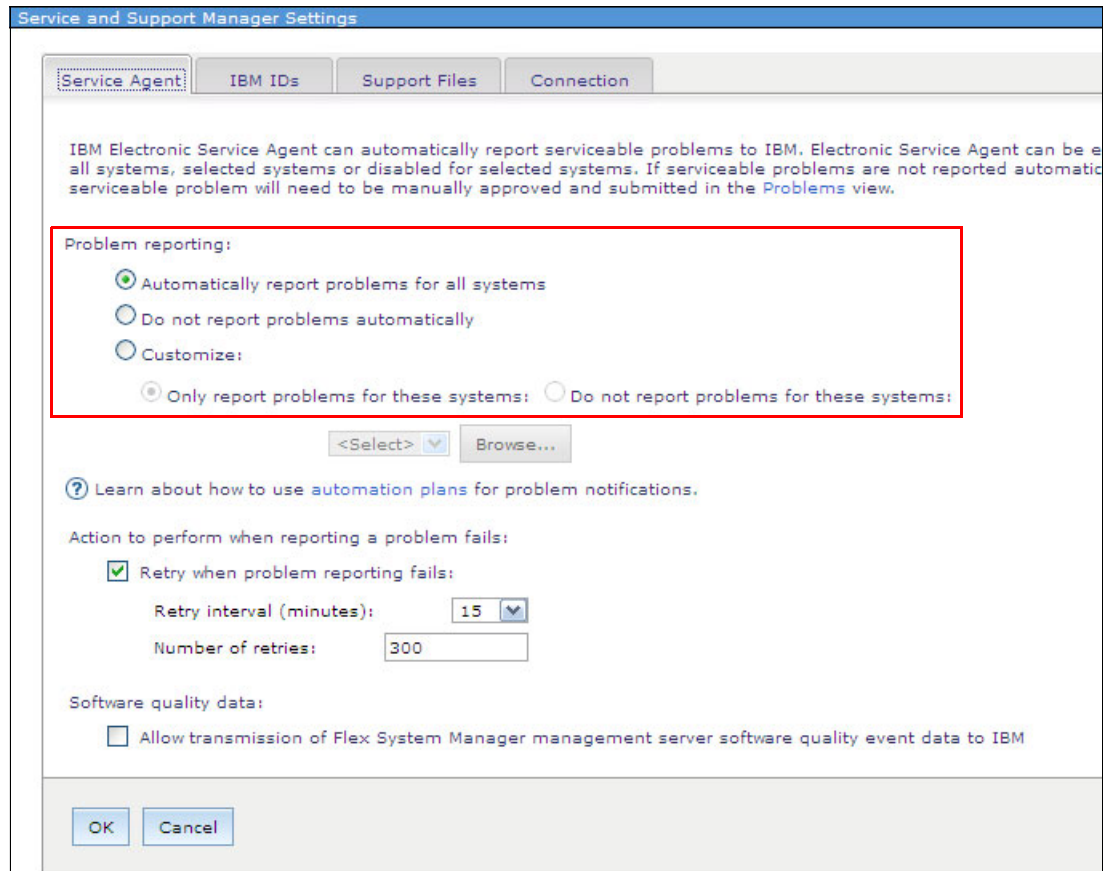

Figure 7-38 Service and Support Manager settings
11. Select **Automatically report problems for all systems** to allow Electronic Service Agent to report all problems to IBM support automatically (Figure 7-38).